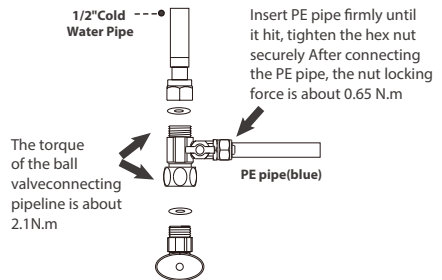

Figure 5
5. After removing the quick-release connector, pull the filter element outward with force to remove it Figure 5.